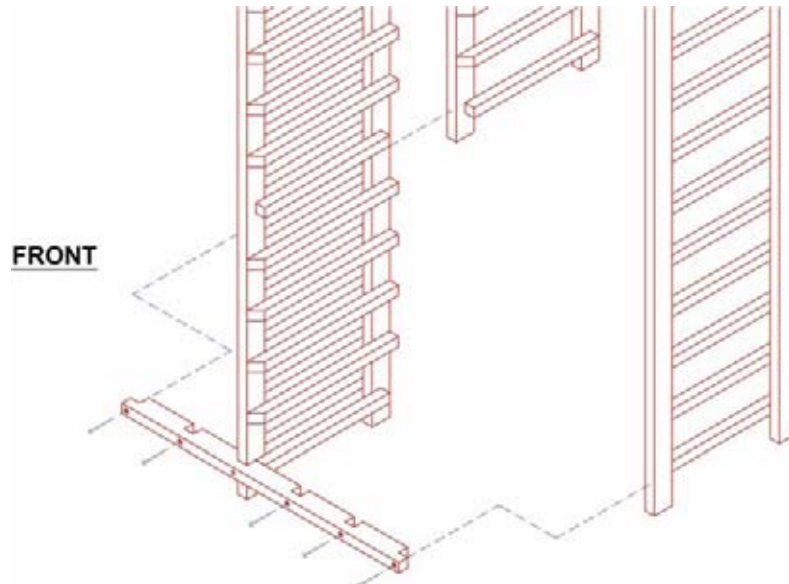

Figure 2
5. Repeat step 4 until all (4) double-sided ladders are in place.
6. Set the two single-sided ladders with the backs on the floor (angled slats facing up) and into the open end rabbet (or slot) locations (**Figure 2**). Make sure that the slat sides of the ladders face inward toward the other ladders. Align the spacer bar at the spacer slat location. ****Pre-drill through the existing screw holes on your spacer bar and into the ladder uprights. Secure both ladders with screws as before.**